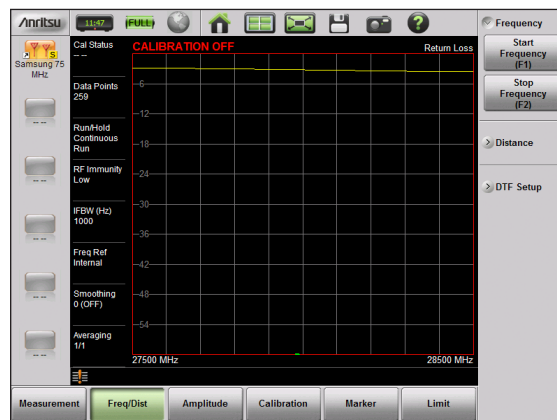

Figure 3. Start/Stop frequency
3. Set the Start & Stop frequencies to the range of interest. For this application note, the Microwave Site Master S820E was set to 27.5 GHz to 28.5 GHz (Figure 3). Your range may be adjusted to meet your specific requirements.